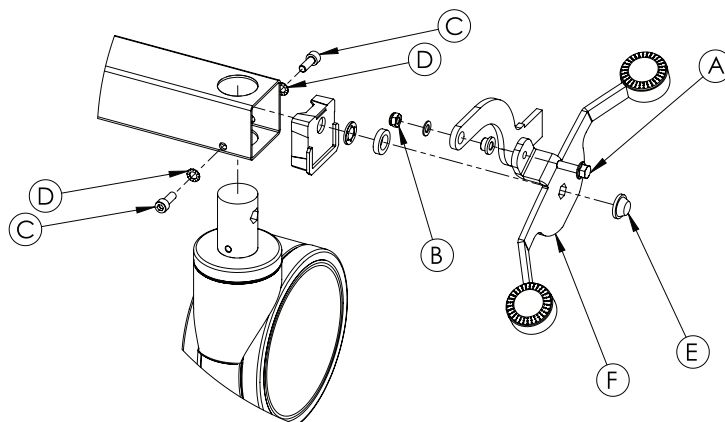

Figure 6: Non-steer caster
4. Using a 3/8 in. drive ratchet and 13 mm socket with a 13 mm combination wrench, remove and save the bolts (A) and nuts (B) on both sides of the brake pedal linkage of the non-steer caster (Figure 6 on page 53).
5. Using a 5 mm hex wrench, remove and save the two screws (C) that secures the non-steer caster to the base frame (Figure 6 on page 53).
6. Using a large flat screwdriver and a hammer, remove and discard the push nut (E) and washer (D) on the side of the non-steer caster (Figure 6 on page 53).
7. Remove the brake/steer pedal (F) (Figure 6 on page 53).